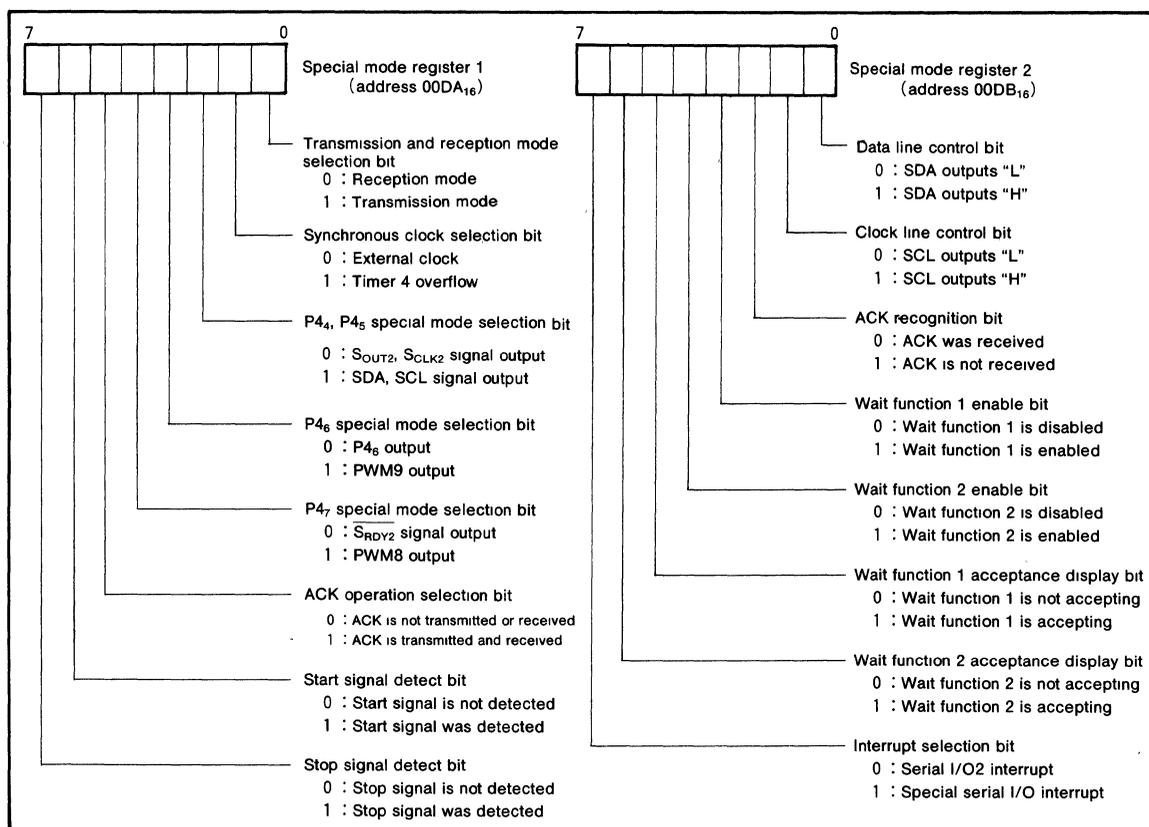

Fig. 16 Structure of special mode registers 1 and 2
(1) Master transmission
① To generate an interrupt at the end of transmission, set bit 7 of special mode register 2 (address 00DB₁₆) to "1" so as to special serial I/O interrupt is selected.
② Then set bit 3 of interrupt control register 2 (address 00FF₁₆) to "1" so as to special serial I/O interrupt is enabled. Clear the interrupt disable flag I to "0" by using the CLI instruction.
③ The output signals of master transmission SDA and SCL are output from ports P₄₄ and P₄₅. Set all bits (bits 4 and 5) corresponding to P₄₄ and P₄₅ of the port P4 register (address 00C8₁₆) and the port P4 direction register (address 00C9₁₆) to "1".
④ Set the transmission clock. The transmission clock uses the overflow signal of timer 4. Set appropriate value in timer 4. (For instance, if $f(X_{IN})/16$ is selected as the clock source of timer 4 and 4 is set in timer 4 when $f(X_{IN})$ is 4MHz, the master transmission clock frequency is 25kHz.)
⑤ Set contents of the special mode register 2 (address 00DB₁₆). (Usually, the value is "83₁₆".)
⑥ Set the bit 3 of serial I/O2 mode register (address 00DE₁₆). After that set the special mode register 1 (address 00DA₁₆). Figure 16 shows the structure of special mode registers 1 and 2.